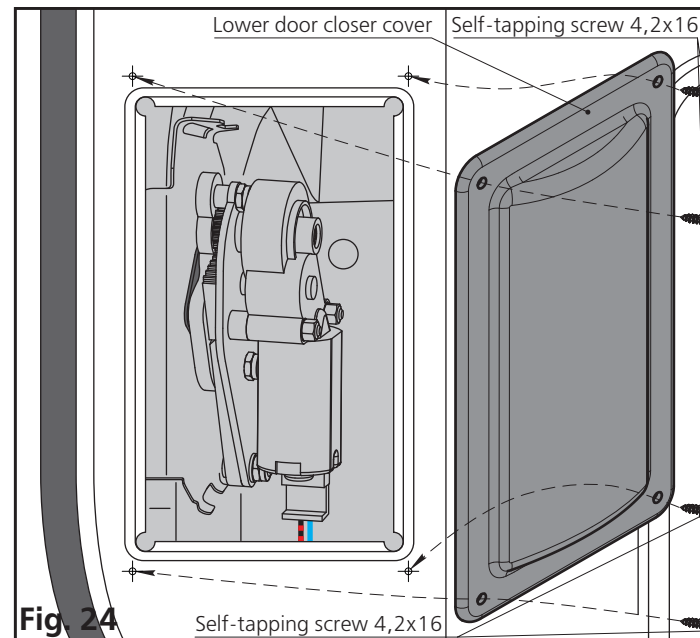

Fig. 24
2. If necessary, fix the lid of the lower door closer to the specified place using four screws 4,2x16 (Fig. 24).